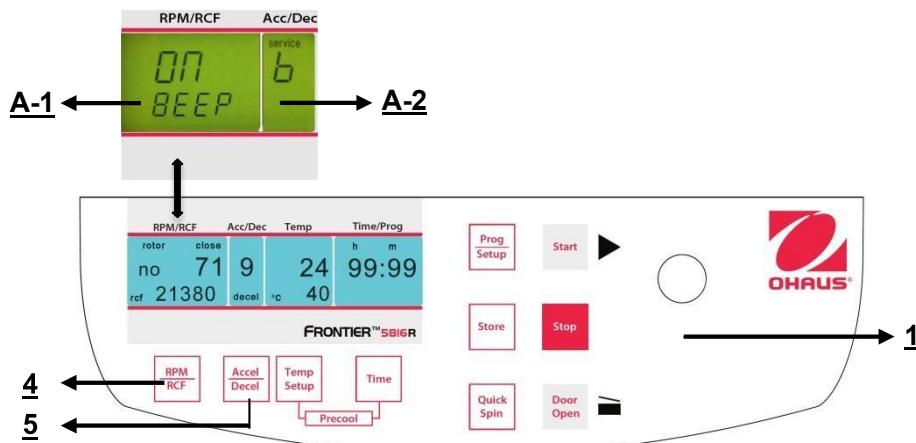

Figure. 38
Proceed as described under point 4.1.1 to enter this program mode and then press the key "Accel/Decel" (5). In the display "Acc/Dec" (A-2) the word "Service" flashes. Now select the letter "B". with the adjusting knob (1). As a result, in the display "RPM | RCF" (A-1), the word "ON/BEEP" appears. After pressing the key "RPM | RCF" (4), you can turn the keyboard sound (On) or (Off) with the adjusting knob (1). (See figure 38).